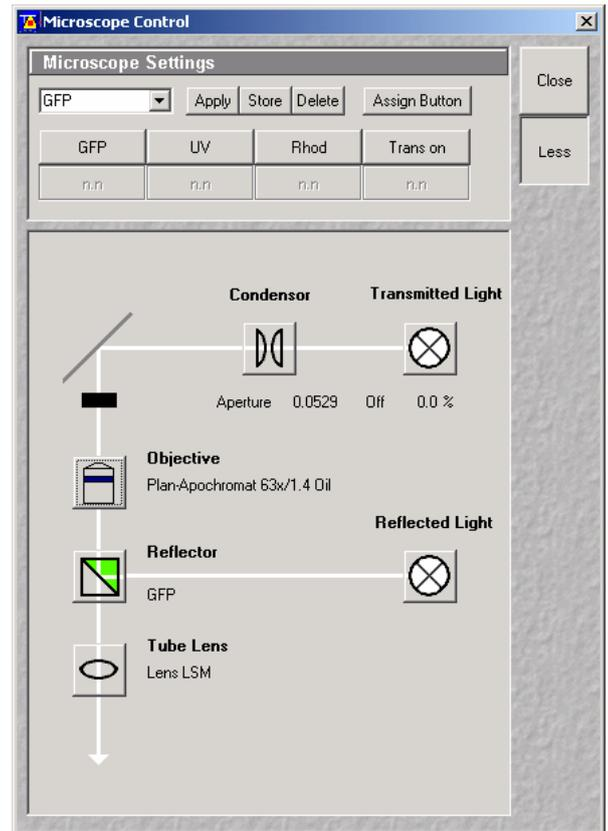

Fig. 10 Microscope Control window, e.g.: Axiovert 200 M
The **Microscope Control** window appears (Fig. 10).
- Open the graphical pop-up menu by clicking on the **Objective** button (Fig. 10).